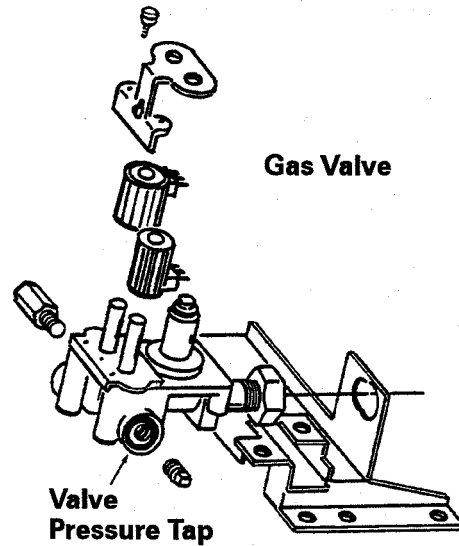

Figure 1-1
4. Install a 5/16" tapered fitting at the gas valve pressure tap. Use thread seal tape or compound on fitting, (*See figure 1-1*).